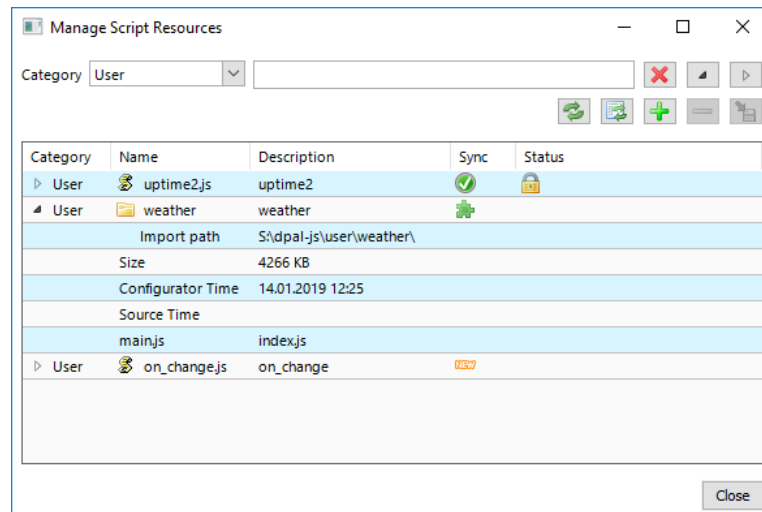

Figure 53: Manage script resources dialog
- **Script folder:** This represents a folder that contains a collection of files which constitutes the script resource. Similar to an npm module a main file has to be appointed. This can be implicit by naming convention (index.js or foldername.js) or explicit by looking into the package.json. The script management dialog reveals the main.js file in the expanded details as shown in Figure 53.